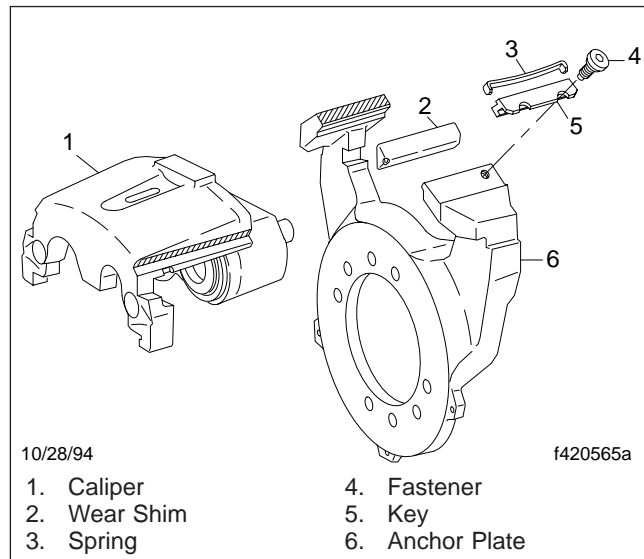
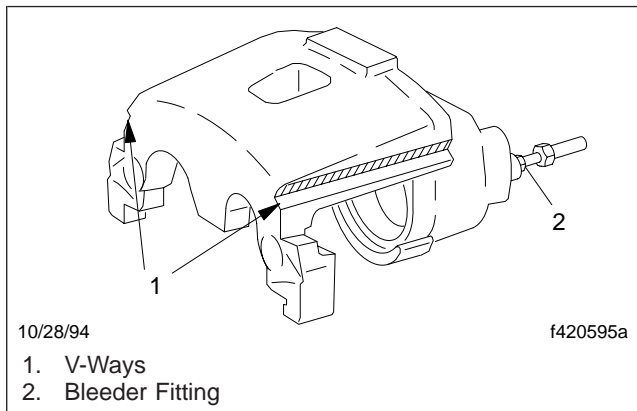

Fig. 7, Anchor Plate and Key Fastener
Fig. 9, Caliper V-Ways
5. Remove the key-retaining fastener from the anchor plate. See **Fig. 7**.
10. Using brake cleaner or alcohol, remove old grease from the caliper V-ways, the anchor plate rails, and the shoe slots. See **Fig. 7** and **Fig. 9**. Also clean the key and spring.